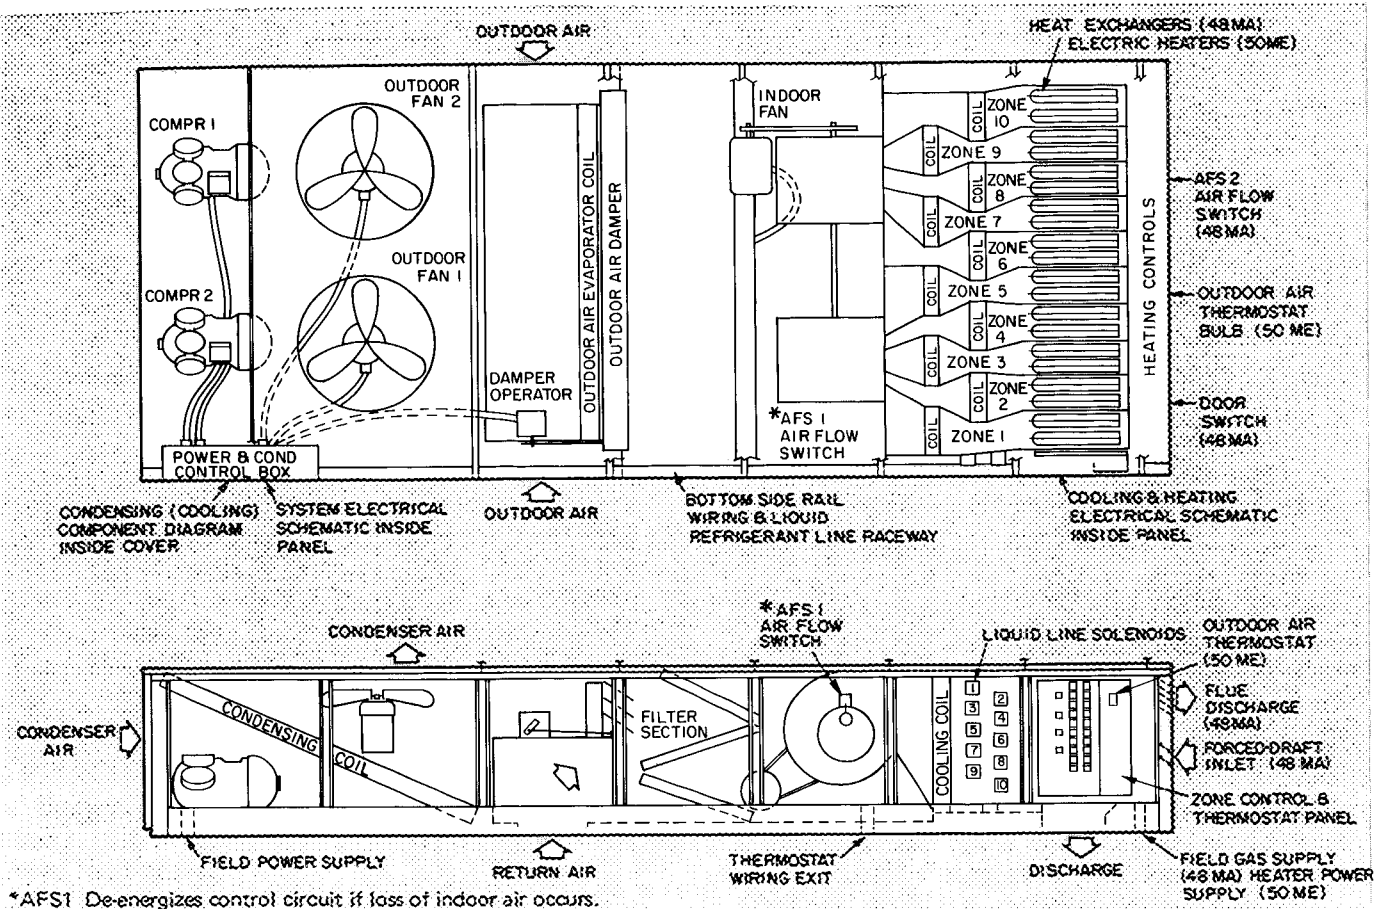

Fig. 23 – Major Component Identification (Ten-Zone Unit Shown, Eight-Zone Units Similar)
**Outdoor Air Thermostat Adjustment (50ME)** — The outdoor air thermostat (OAT.) is located in the upper right-hand area of the zone board compartment of unit as shown in Fig. 23 and 24. It is factory set at 40 F but is field adjustable between -5 F and 55 F as desired.
**INDOOR AIR FILTERS** — Clean or replace filters at start of each heating and cooling season and as often as necessary during each season, depending on operating conditions. Refer to Table 1 for type and size of filter used. Filter section is shown in Fig. 23 and 24. Return-air filter tracks will accept two layers of one-in. thick filters.
**INDOOR AIR FLOW SWITCH (AFS1)** is located in indoor air fan inlet venturi (Fig. 23 and 24). This switch will shut down unit if air flow thru zone modules is insufficient. See Table 1 for settings.
**COMBUSTION AIR FLOW SWITCH (AFS2)** on 48MA is located in combustion air plenum (Fig. 23 and 24). This switch will shut down unit heating mode if combustion air is insufficient. See Forced-Draft Blower for discussion of combustion air shutter adjustment.
**Service Switch** — A control circuit service switch is located in the Power and Condensing Control Box (Fig. 23 and 24). Shutdown unit (compressors, fans, and control circuits) at this switch.
3. Manually close air flow switch (AFS1) on indoor air fan housing (Fig. 23 and 24) with a piece of tape.